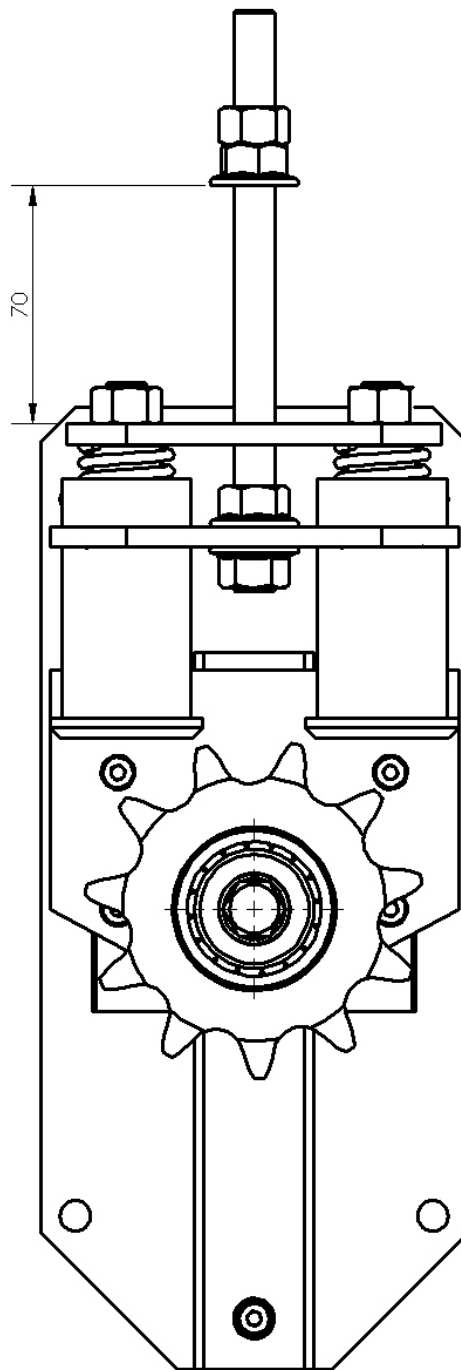

Figure 4.19
c) Starting on one corner of the Archbeam, follow the procedure detailed in **4.1.2h** through to **4.1.2k**, the only exception to this is the distance between the backing plate and nut should be **70mm** see Figure 4.19.